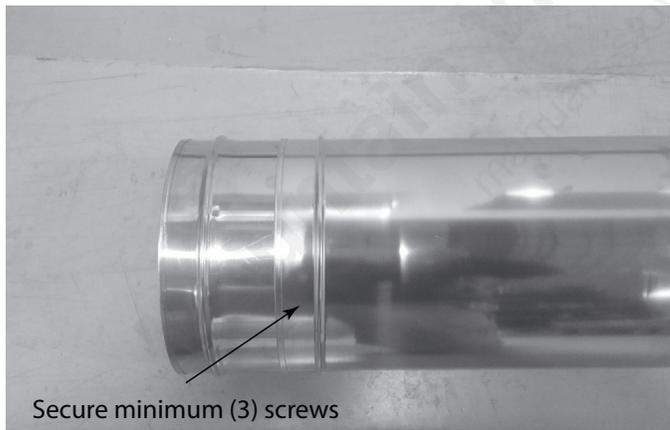

Figure 7.5 Screws into Slip Section
- Secure SLG vent section and slip section at desired length with a minimum of (3) screws. See Figure 7.5.